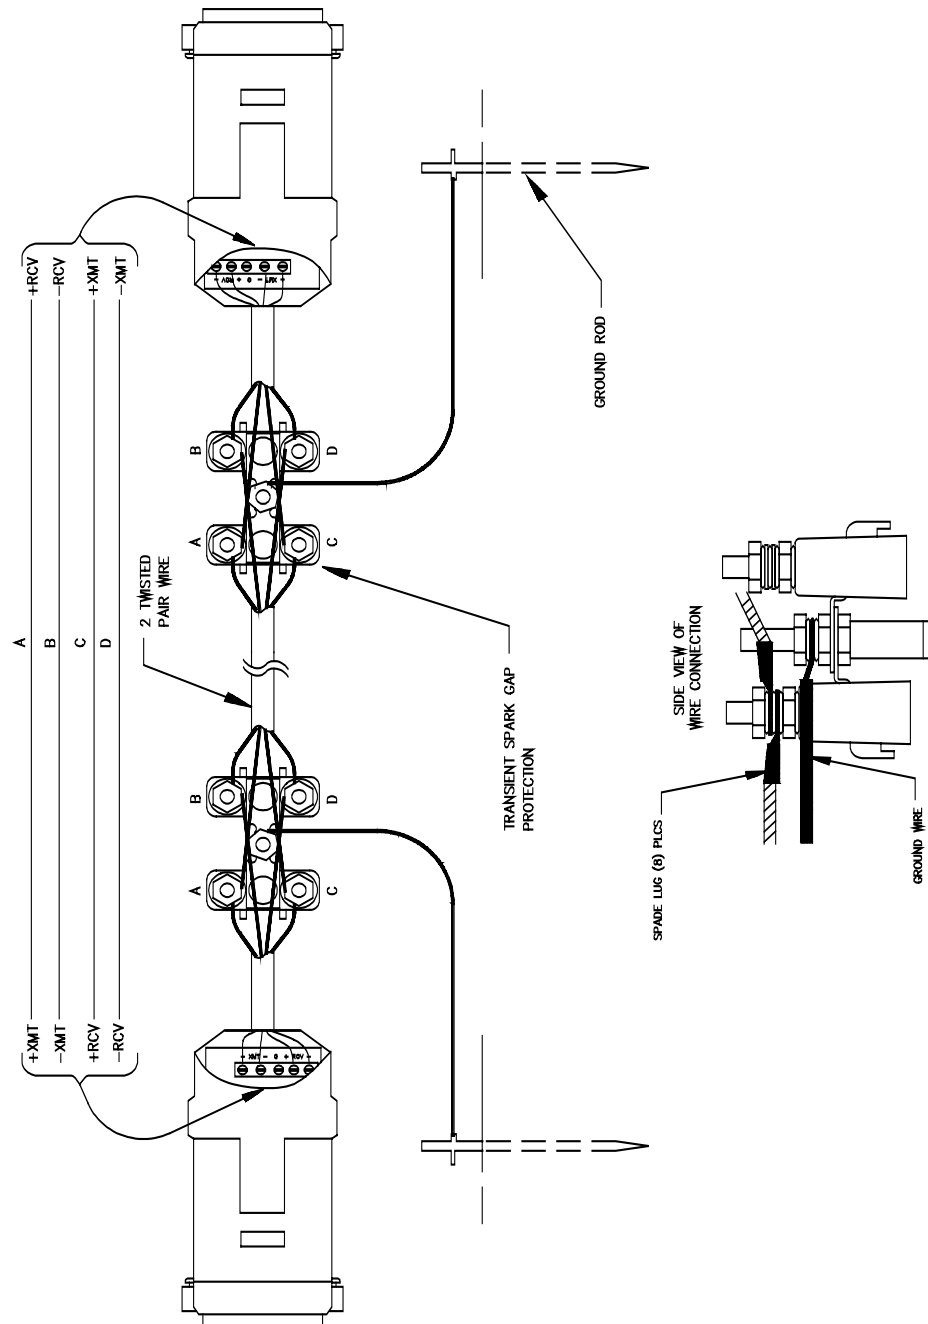

FIGURE 3. Installation of Spark Gap Protection
Figure 3 shows a typical setup of the RAD modems. Installation is as follows:
3. Wiring connections are made as shown in Figure 3. Note wires labeled A and B are one twisted pair of the cable. Wires labeled C and D are the other twisted pair.
4. Transients induced on the communication line may damage any electronics connected at either end of the line. To decrease the chances for damage, spark gaps should be installed as shown in Figure 3. The transient protection shown may be purchased from Campbell Scientific, Inc. (p.n. 5563 shown in Figure 3, p.n. 6536 includes a plastic case, p.n.